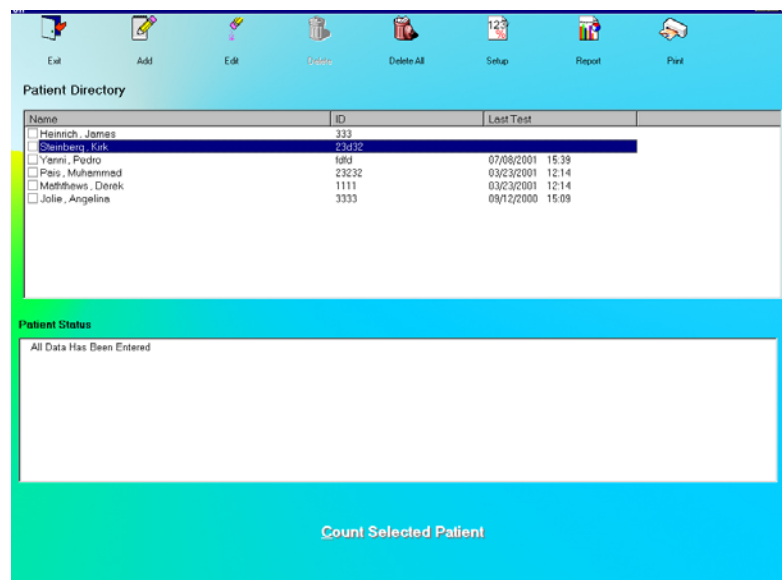
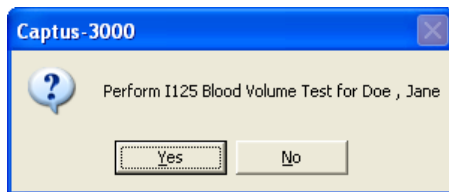

Figure 10-31
Figure 10-38
1. To select (highlight) a patient to be edited, use the ↑ ↓ keys or *Page Up* and *Page Down* keys to move up or down in the patient list. If the list is long, the scroll bar is also available. To reach a particular patient, press the first letter of the patient name. Press the ↓ key if necessary, to go further down (Figure 10-31).
3. Click the **Start Procedure** button or press *Alt+S* to begin the test. Figure 10-38 will appear confirming the selected patient. To cancel the test or if the incorrect patient was selected, click the **No** button to return to Figure 10-31, otherwise click **Yes** to continue.